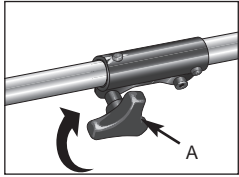

Fig. 2C
- Turn the knob (A) clockwise to tighten. (Fig. 2C)